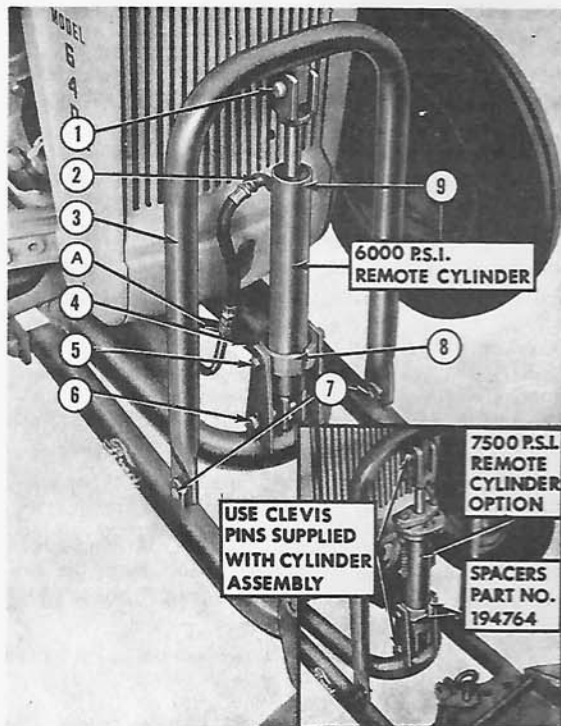
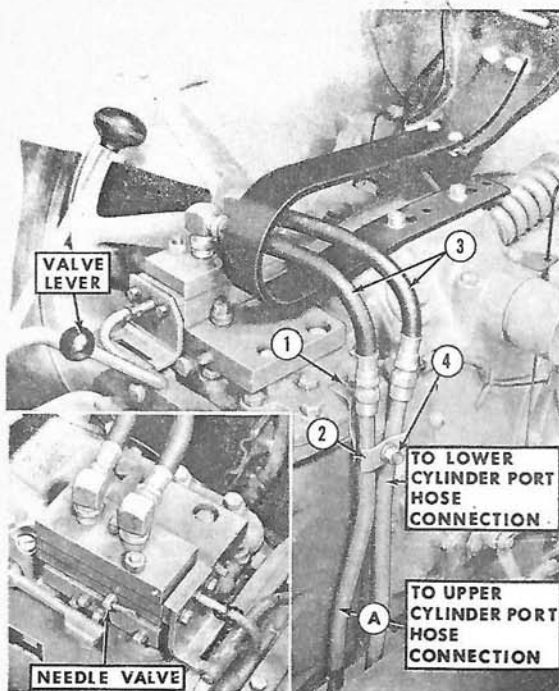

Figure 8
Figure 9
The Hydraulic Cylinder Control Attachment requires the use of a double acting remote control valve attachment available as extra equipment. Valve Kit No. 231218 and manifold Kit No. 231210 are shown installed on the tractor in Figure 9, and may be used on Series 600 and 800 tractor models. For NAA tractors use manifold Kit No. 231216 with valve Kit No. 231218.
1. Position the yoke assembly (3), Figure 8, on the lift arm and install two  $\frac{5}{8}$ " x  $1\frac{3}{8}$ " clevis pins and  $\frac{1}{8}$ " x  $1$ " cotter pins as shown at (7).
2. Place the spacer (8) on the cylinder assembly (9), Figure 8. Secure the cylinder and spacer with two  $\frac{1}{2}$ " x  $\frac{7}{8}$ " hex head bolts (5) and lockwashers.
3. Secure the cylinder assembly at the mounting bracket end with the clevis pin (6), Figure 8, and two  $\frac{3}{16}$ " x  $1\frac{1}{2}$ " cotter pins supplied with the dozer frame.
4. Install the rod end of the cylinder to the yoke with a  $1$ " x  $\frac{27}{8}$ " pin shown at (1), Figure 8, and secure with a  $\frac{3}{16}$ " x  $1\frac{1}{2}$ " cotter pin.
5. Coat the threads of the street-ell (2), Figure 8, with pipe thread sealer and install it in the top cylinder as shown.
NOTE: The remote cylinder assembly, Part No. 194669, shown installed in Figure 8, is rated at 6000 P.S.I. An optional remote cylinder, Part No. 230560 may be used with Implement Mounting Kit No. 195375 and Hose Kit No. 231174 sold
separately (see insert, Figure 8). This cylinder assembly is rated at 7500 P.S.I. and is available at extra cost. Installation of this cylinder is the same as described for the cylinder supplied with the Model 19-91 Hydraulic Cylinder Control Attachment, with the exception that two spacers Part No. 194764 sold separately (see insert, Figure 8) are used, street-ell (2), Figure 8, is not used. Clevis pins are supplied with the cylinder assembly for mounting purposes.
6. Remove the left rear bolt from the tractor hydraulic lift cover and attach the hydraulic pipe bracket (1), Figure 8, at this location with the bolt. Make certain that the  $\frac{3}{8}$ " x  $1\frac{1}{2}$ " carriage bolt (4) is assembled in the bracket in the position shown.
7. Lay the two hydraulic pipes (with the 90° bends together) under the tractor. Pull both pipes up between the left running board, just forward of the rear running board bracket (see Figure 9). Secure the pipes with clamp (2), lockwasher and hex nut.
10. Install the two  $16\frac{3}{4}$ " hoses (3), Figure 9, to the hydraulic pipes and valve assembly as shown.
11. Install the two 12" hoses to the front ends of the hydraulic pipes at "A" and (4), Figure 8, and to the upper and lower cylinder port connections. The hose leading from tube "A", Figure 8, is connected to the upper cylinder port and corresponds to the rear portion of tube "A", Figure 9, that connects to the front port of valve assembly.